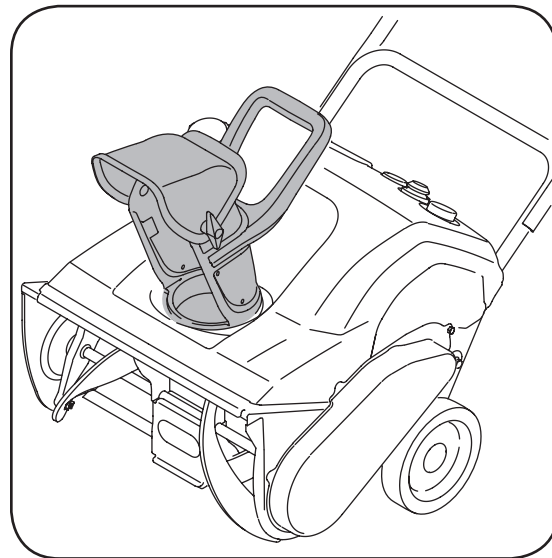

Figure 3
4. Re-secure with the hardware just removed. If installed correctly, your snow thrower should look like Figure 3.